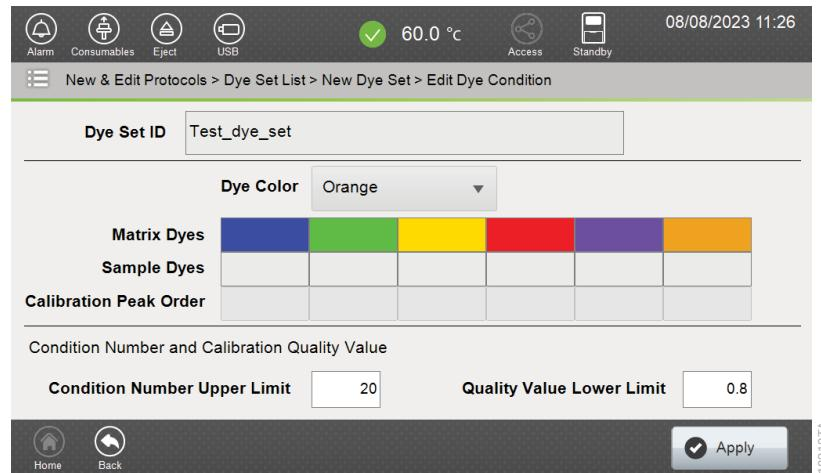

Figure 144. 'Edit Dye Condition' screen.
4. Using the 'Dye Color' drop-down box, assign a dye color for the Size Standard (Figure 144).